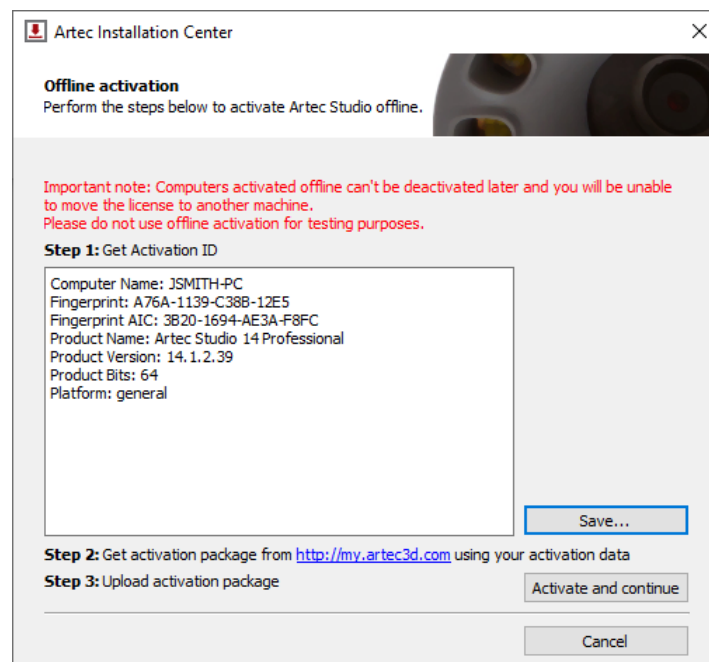

Figure 22: Offline-activation window
4. In the offline-activation dialog (**Figure 22**), click *Save...* and save generated Activation ID file to a flash drive or other storage medium.